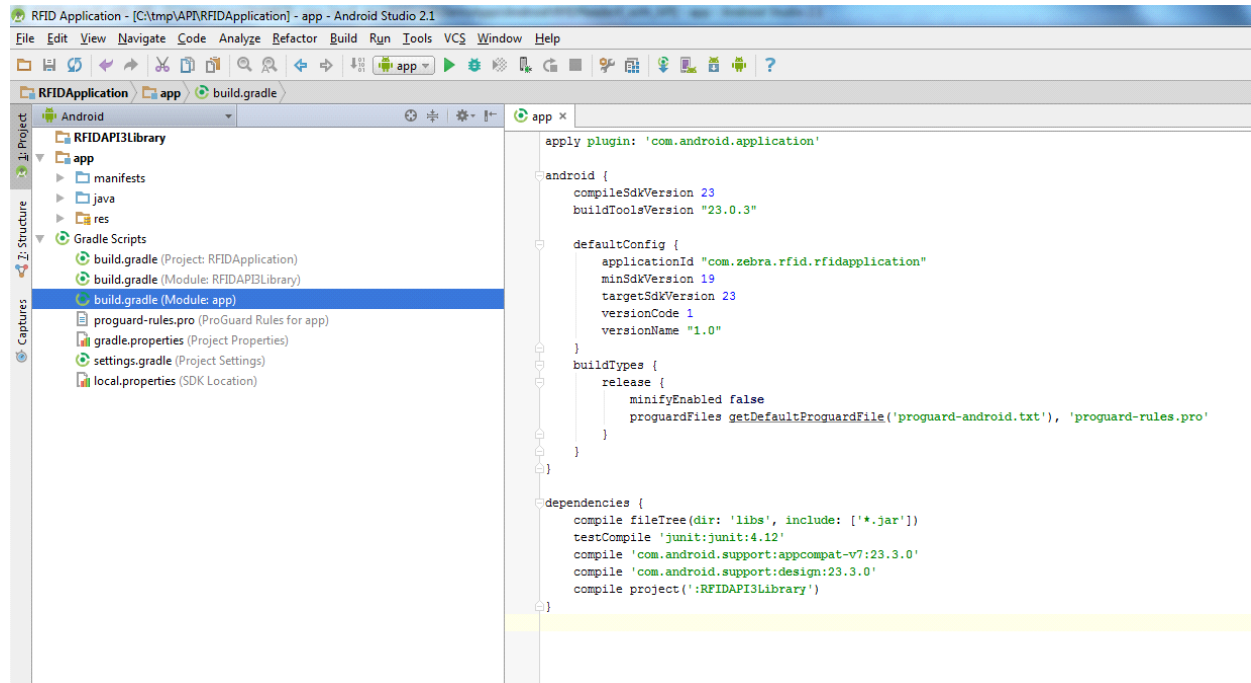

Figure 4-11 Application Gradle Modification for Module
4. Add the module under dependencies in the application gradle file as shown in Figure 4-11.